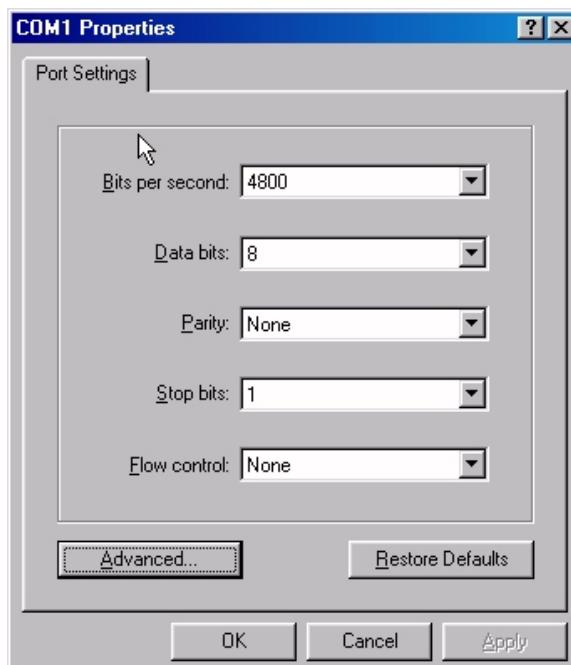

Figure 3-4. Serial COM port configuration
3. Configure COM port: 4800 baud (1200, 2400 or 9600, according to Section 2.1), 8 data bits, No parity, 1 stop bit, and No flow control (Figure 3-4).